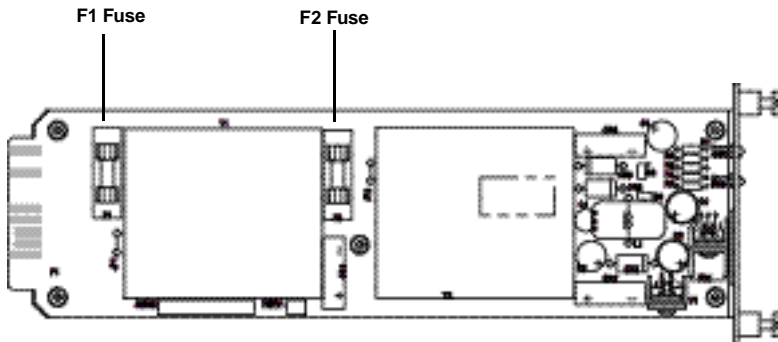

Figure 5-3. Fuse locations on the power-supply module.
3. Check the F1 and F2 positions (Figure 5-3) on the power-supply module for incorrectly seated and/or burned-out fuses.